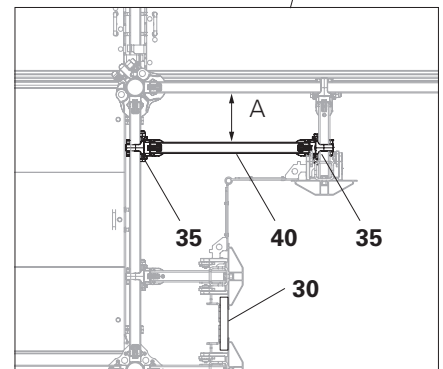

Fig. D1.05a
2. Close remaining lateral gap between the support rails with wooden plate (30) and Adapter CEA. (Fig. D1.05 + Fig. D1.05a)